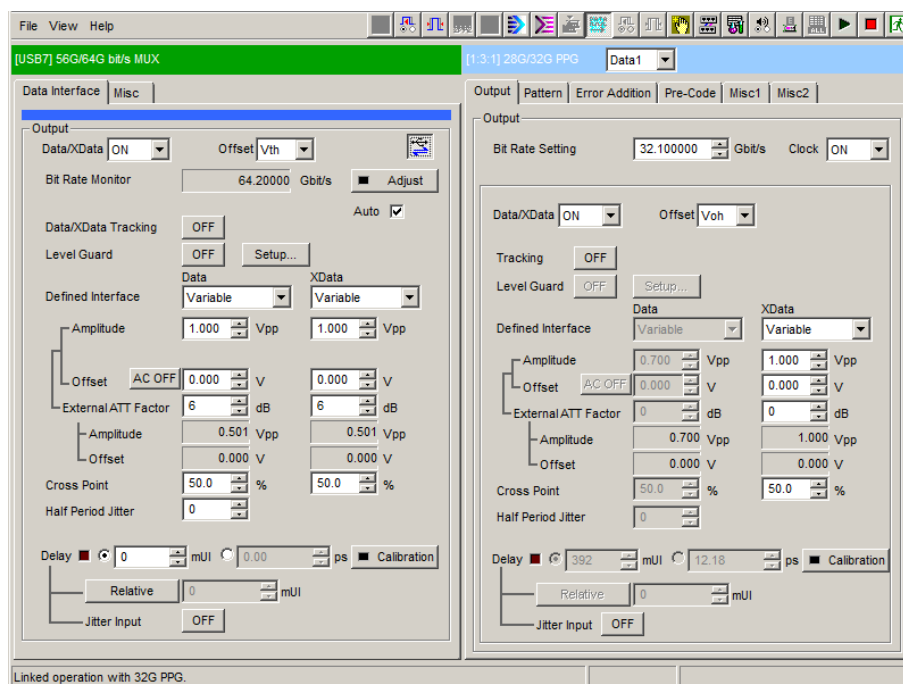

Figure 4.4-3 Operation Window of the Linked PPG
- [3] Clicking this button displays the operation window for the linked PPG module indicated in [2], next to this window. (Refer to Figure 4.4-3.)